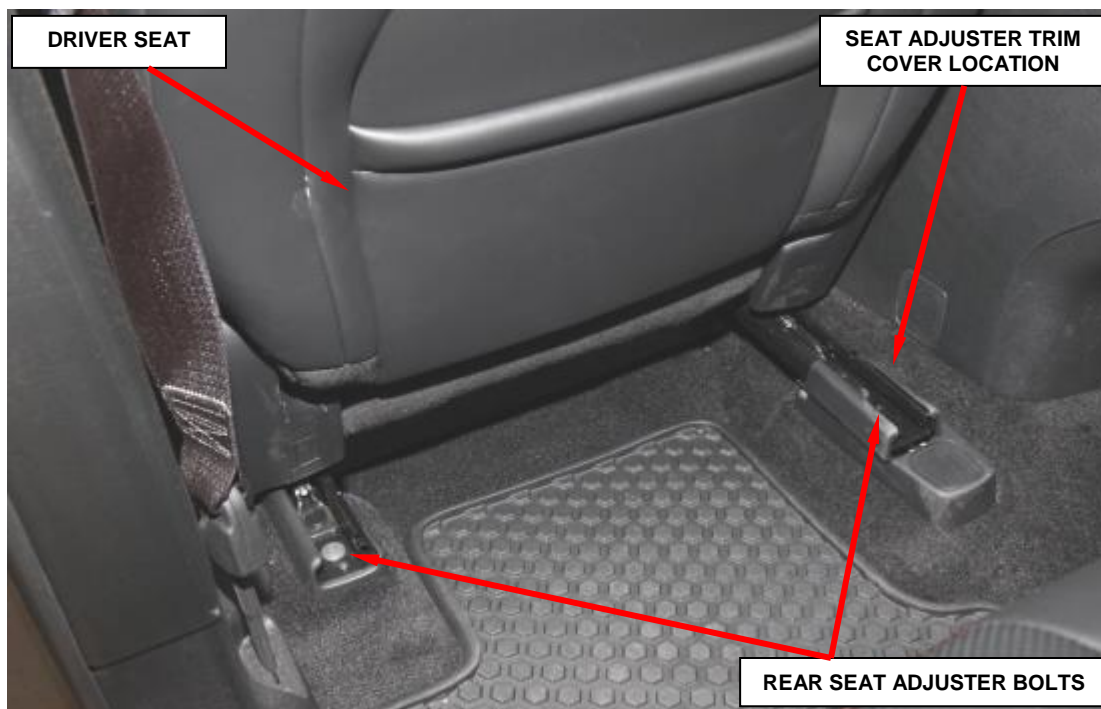

Figure 1 – Rear Seat Adjuster Bolts
2. Using trim stick C-4755 or equivalent, pry open the inboard rear seat adjuster trim **covers** (Figure 1).
3. Remove the two rear seat adjuster bolts, **both front seats** (Figure 1).
11. **Install the two rear seat adjuster bolts on both front seats. Tighten to 30 ft. lbs. (40 N·m)** (Figure 1).